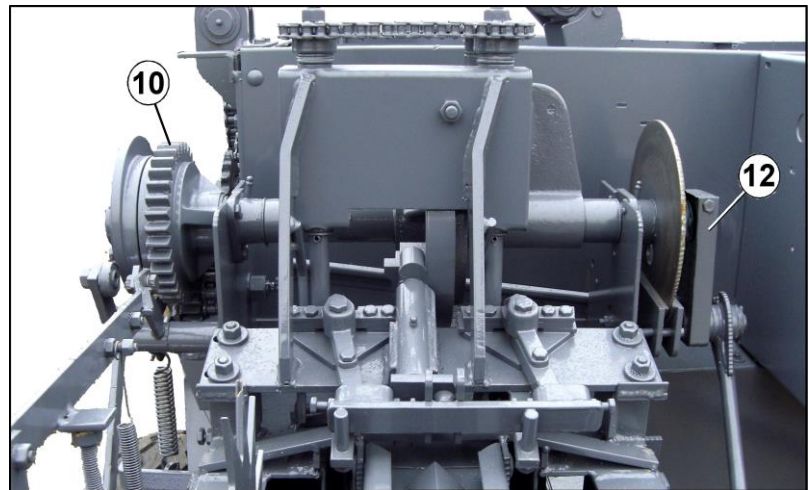

Fig. 15 / ter
When the bale has reached the chosen length, the sector lever (n° 1 Fig. 4) is moved upward to the maximum height by the advancement of the bale, thus engaging the binder. Under these conditions, the bell gear (n° 10 Fig. 15/ter), with its rotation at the point determined by the timing, starts the rotation of the binder shaft and initiates the binding cycle that proceeds as follows:
1. The needles, driven by the drive crank (n. 12, fig. 15/ter), take the wire to the binder unit.
5. The needles, which are always driven by the drive crank (n° 12 Fig.15/ter), return to the rest position.